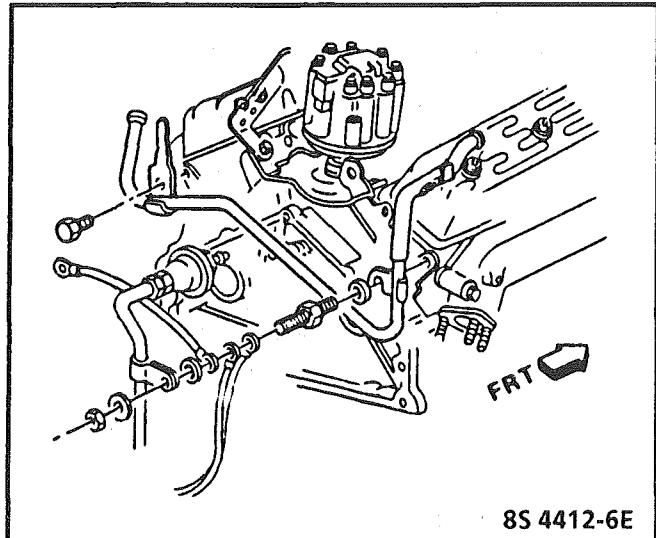

Figure C6-4 - PEDES Valve Service
2. Adapter bolts (See Figure C6-4).